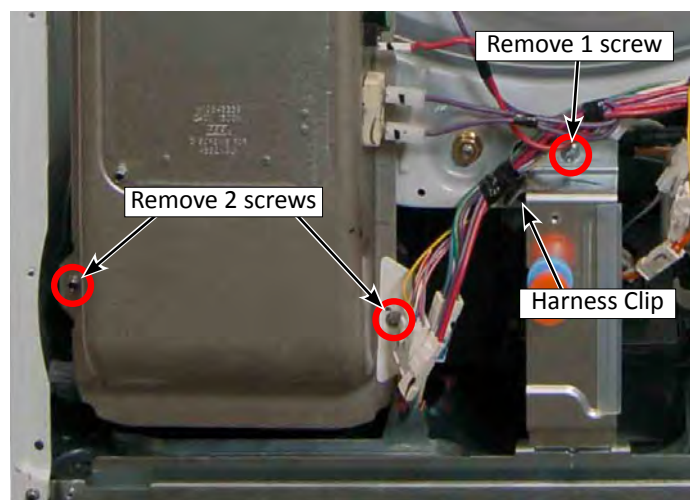

Figure 4
11. Remove the two (2) lower 1/4" hex-head screws at the bottom of the inlet duct as illustrated in Figure 4.
12. Remove one 1/4" hex-head screw located behind the lower harness as illustrated in Figure 4.
13. Unclip the single harness clip from the drain bracket (see Figure 4).